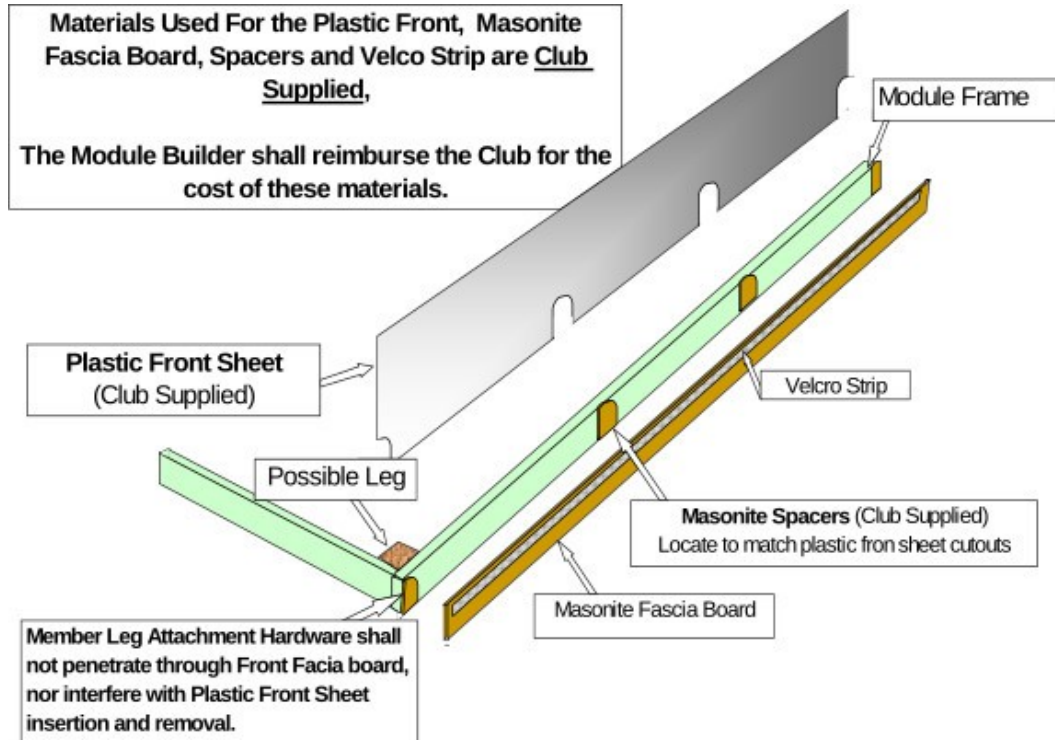

Figure 4: PLASTIC FRONT PANEL
1. All modules will have a clear plastic panel attached to the front of the module as shown in Figure 4 at all shows.
3. The club supplied Velcro strip, shown in Figure 4, will be used for attaching club supplied curtains. It must be attached to the front of the fascia board 3/4" below the top. If the Velcro strip is not self-adhesive, it must be attached with contact cement.